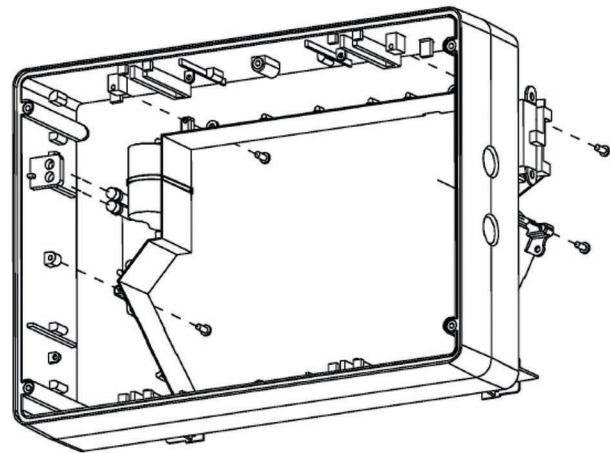

FIG 2.
- d. In order to access the knockouts of the frame, remove the 4 electronic module screw(s) holding the electronic module to the frame and separate them (see fig.2).